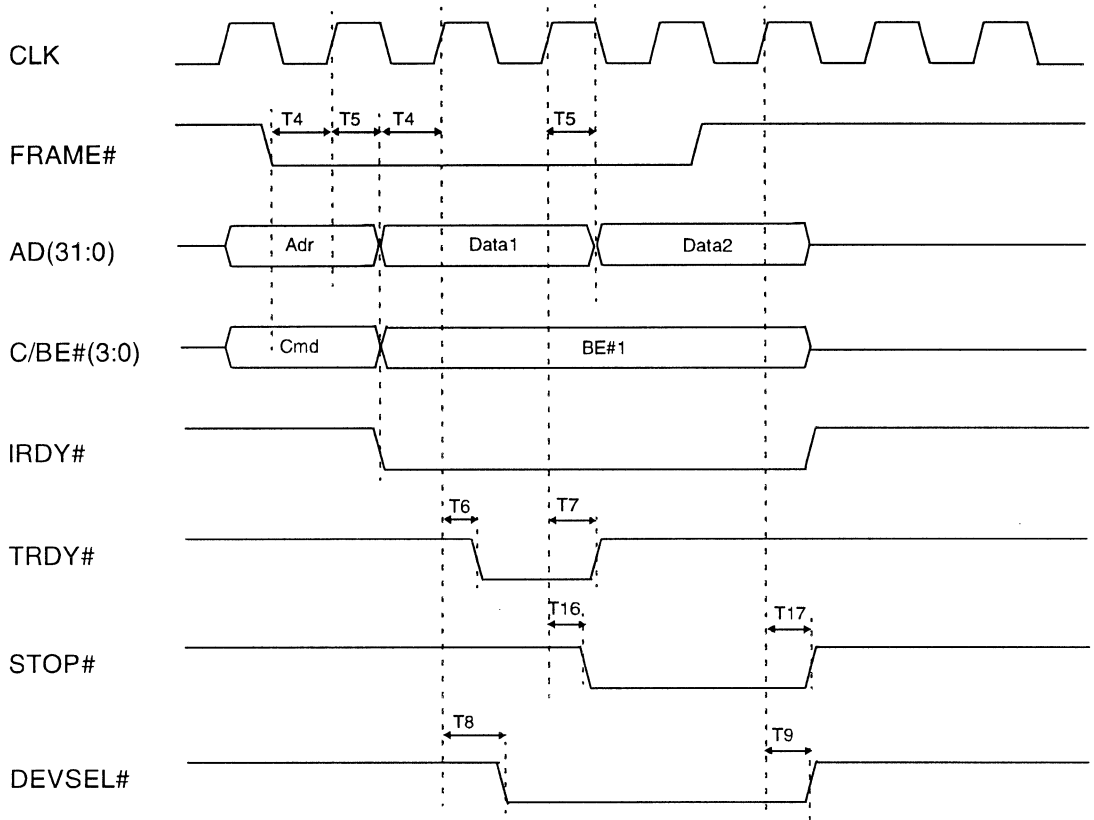

Figure 7-2. Disconnect On Burst Cycle - PCI Bus
- Disconnect On Burst Cycle, see *Figure 7-2*.